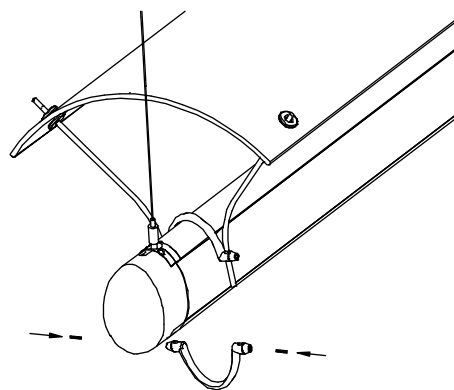

Figure 14
- A. Place the Previously assembled assembly on top of your fixture. Slide the casting bracket from below the fixture onto the lens bracket and tighten four set screws. (Fig. 14)